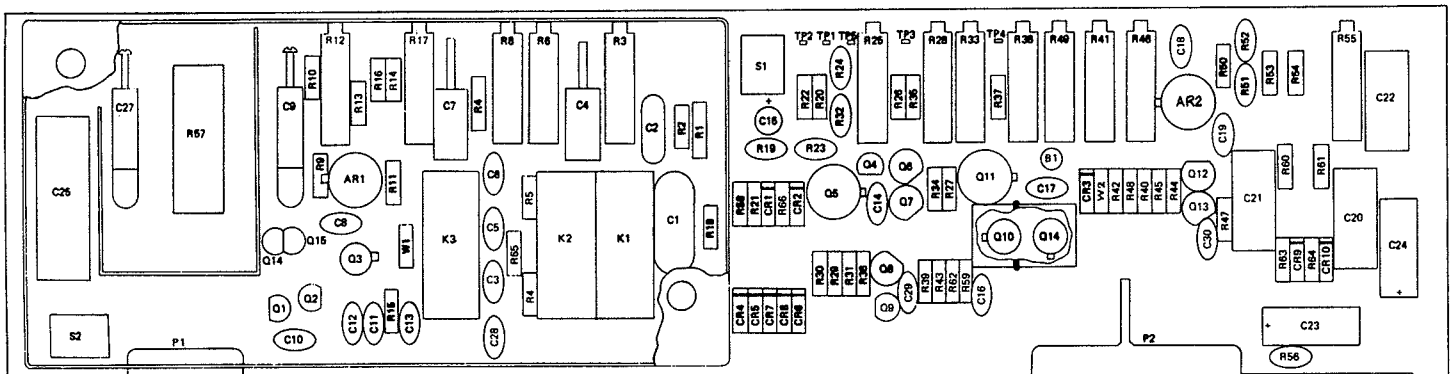

Figure 5.6 - RMS - PCB Assembly
5.3.5.3.1 Model 5006 AC Pre-Cal procedure reference drawings are shown in Figures 5.6 and 5.7. The calibration procedures are described in the following instructions.